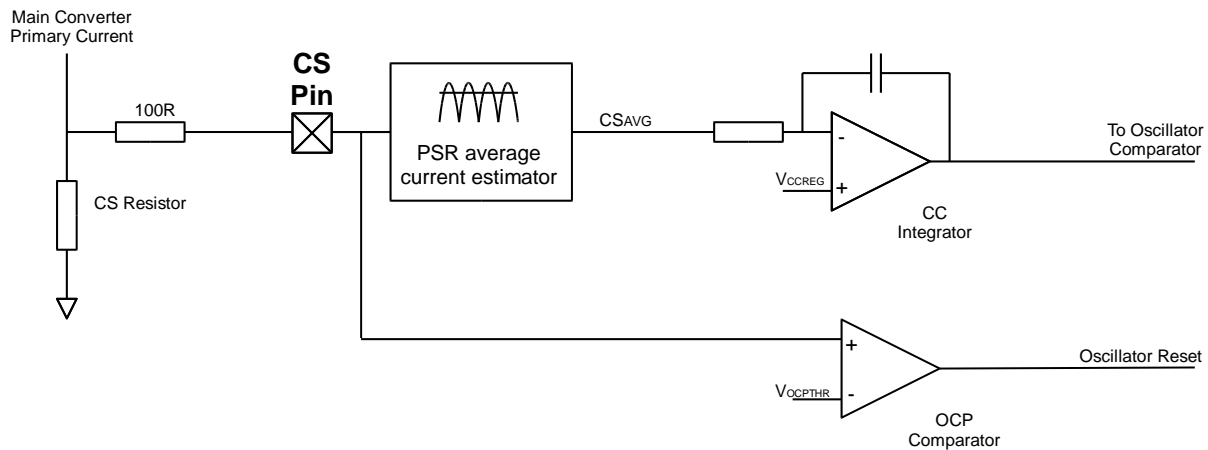

Figure 7: RED2431 Current protection and control circuits
Figure 7 shows the two current control methods used in the converter:
Shown in figure 7 the signal from the CS pin is divided into two different paths. The bottom path provides peak instantaneous over-current protection (OCP) while the PSR Average Current estimation block provides the current regulation (CC) information. The voltage on the CS pin is an AC signal biased around GND. Inside the PSR block this signal is processed to provide a voltage proportional to the average converter output current.
The CC regulation circuit is shown in Figure 7. CC operation is defined by an internally compensated control loop. This provides a system response time of approximately 300us in a typical application. The average current regulation point, V_{CCREG} is pre-set to 150mV, referred to the CS pin.